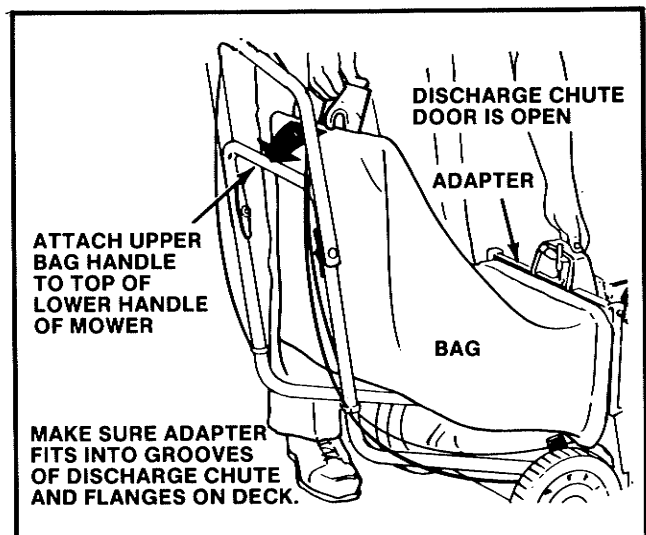

FIGURE 7
- Hook the bag handle over the crossbar of the mower's lower handle. (Figure 7.)